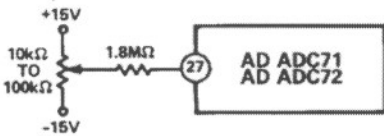
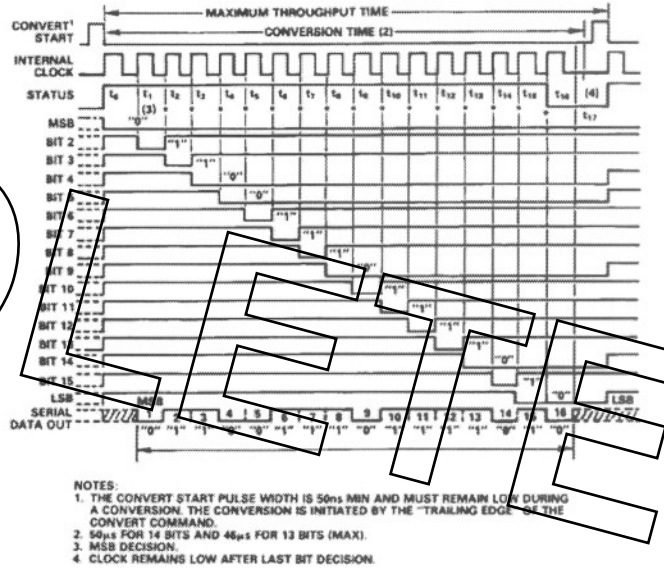

Figure 6. Offset Adjustment Circuit
Figure 8. Timing Diagram (Binary Code 0110011101111010)
The zero adjust circuit consists of a 100ppm/°C potentiometer connected across  $\pm V_S$  with its slider connected through a 1.8M $\Omega$  resistor to Comparator Input pin 27 for all ranges. As shown in Figure 6, the tolerance of this fixed resistor is not critical, and a carbon composition type is generally adequate. Using a carbon composition resistor having a -1200ppm/°C tempco contributes a worst-case offset tempco of  $32LSB_{14} \times 61ppm/LSB_{14} \times 1200ppm/°C = 2.3ppm/°C$  of FSR, if the OFFSET ADJ potentiometer is set at either end of its adjustment range. Since the maximum offset adjustment required is typically no more than  $\pm 16LSB_{14}$ , use of a carbon composition offset summing resistor typically contributes no more than 1ppm/°C of FSR offset tempco.
The timing diagram is shown in Figure 8. Receipt of a CONVERT START signal sets the STATUS flag, indicating conversion in progress. This, in turn, removes the inhibit applied to the gated clock, permitting it to run through 17 cycles. All the SAR parallel
**Short Cycle Input:** A Short Cycle Input, pin 32, permits the timing cycle shown in Figure 8 to be terminated after any number of desired bits has been converted, permitting somewhat shorter conversion times in applications not requiring full 16-bit resolution. When 10-bit resolution is desired, pin 32 is connected to Bit 11 output pin 11. The conversion cycle then terminates and the STATUS flag resets after the Bit 10 decision ( $t_{10} + 40\text{ns}$  in timing diagram of Figure 6). Short cycle connections and associated maximum 8-, 10-, 12-, 13-, 14-, and 15-bit conversion times are summarized in Table I.